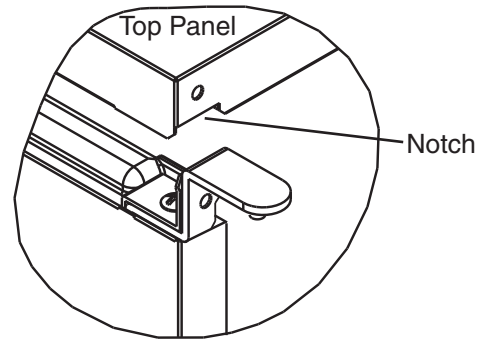

Fig. 5
- 5) Rotate the top panel 180° from its previous position. This brings the notch that was previously in the right rear to the left front. See Fig. 5. Hook the rear part of the panel on the body, then secure the front with the 2 screws removed in step 2.